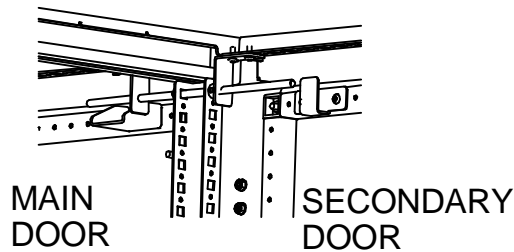

FIG. 3
C) Feed threaded rod (Item 1) through the interlock rod supports (Item 5), the top square of the HME frame and the shaft collars (Item 7) as shown in fig. 3.